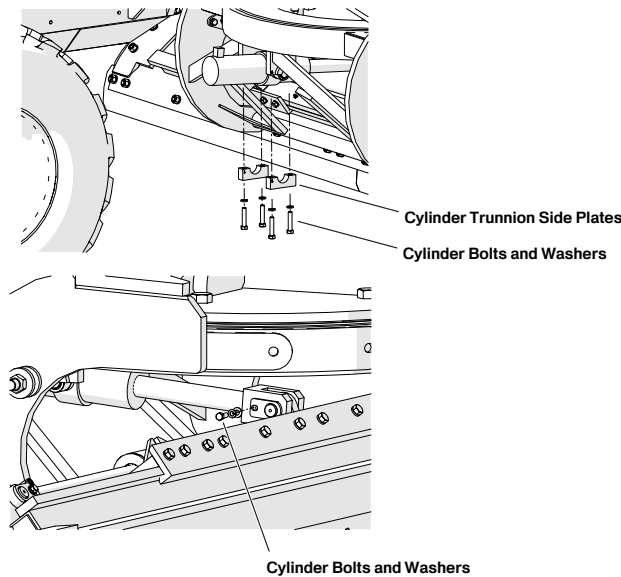

Figure 5-42. Moldboard Tilt Removal
1. Extend moldboard slide cylinder (Figure 5-42).
7. Remove the moldboard slide cylinder (Figure 5-42).
2. Thoroughly clean moldboard angle cylinder (**Figure 5-42**), especially in the areas surrounding hydraulic hoses and fittings.
NOTE: Raise moldboard (Figure 5-42) and support with jack stands before shutting down engine.